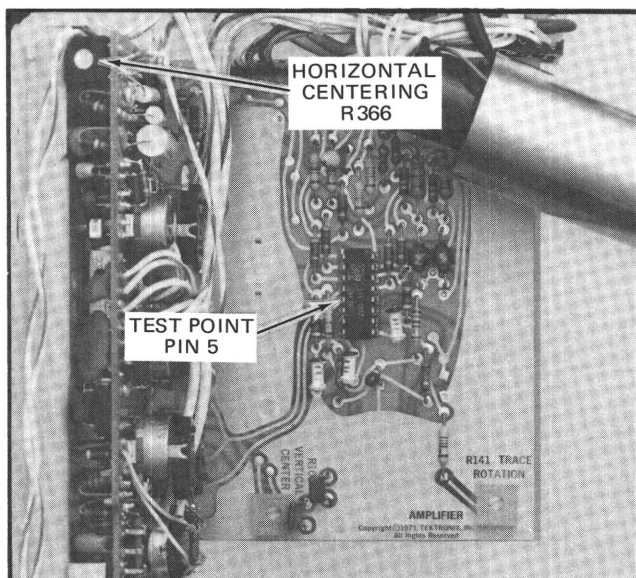

Fig. 4-9. Location of Horizontal Centering adjustment and test point.
- a. Connect the DC Voltmeter between pin 5 of U105, on the Amplifier (A-2) board, (positive meter lead to pin 5) and ground. See Fig. 4-9.